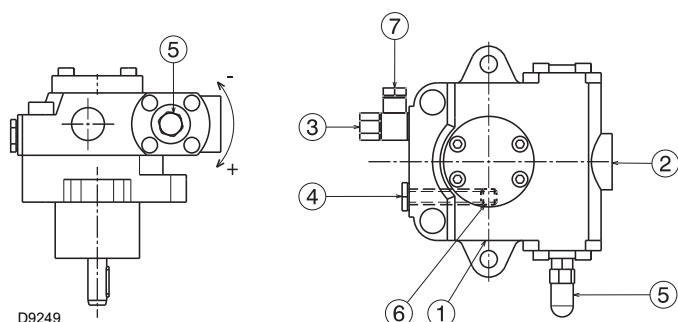

Fig. 23
They are installed on the burner with the by-pass closed by screw 6)(Fig. 23 on page 27).
- In order for the pump (Fig. 23) to self-prime, it is vital that the screw 4) of the pump be loosened to vent the air contained in the suction line.
Key (Fig. 23)
The a.m. operation is possible because the pump is already full of fuel when it leaves the factory. If the pump has been drained, fill it with fuel through the opening on the vacuumeter 4)(Fig. 23 on page 27) prior to starting; otherwise, the pump will seize.